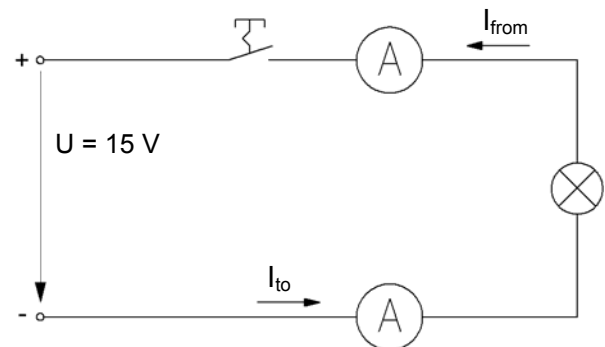

Fig. 1.4.1: Circuit for the first question
- Which direction of current flow is shown in the circuit diagram in Fig. 1.3.1 and which direction in Fig. 1.4.1?